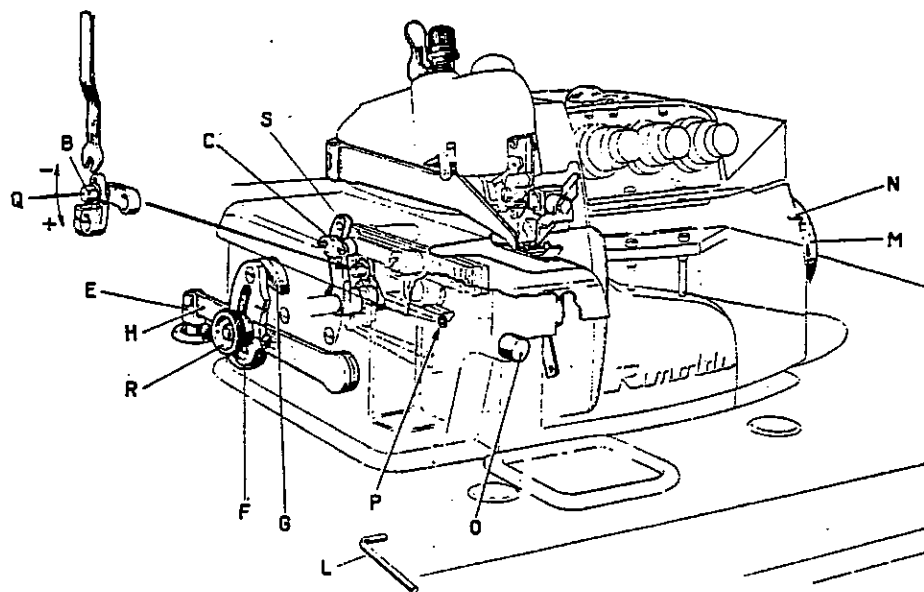

fig. 13
9. Feed mechanism (fig. 13).
#### e) Stitch length adjustment (fig. 13)